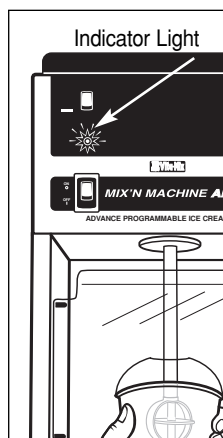

Figure 5
The machine will shut off automatically at the end of the programmed cycle. When the program is within 4 seconds of completion, the LED Indicator light will blink so preparation can begin to remove the cup from the agitator. The blinking light will get progressively faster to indicate that the program cycle is almost complete and the machine will shut off. This provides an indication, so that excess product can be spun off the agitator. See Figure 5.
- **For Mix'n Machine Advance Timer Model:** The machine will shut off automatically at the end of the pre-set time. When the program is within 4 seconds of completion, the LED Indicator light will blink so preparation can begin to remove the cup from the agitator. The blinking light will get progressively faster to indicate that the program cycle is almost complete and the machine will shut off. This provides an indication, so that excess product can be spun off the agitator. See Figure 5.